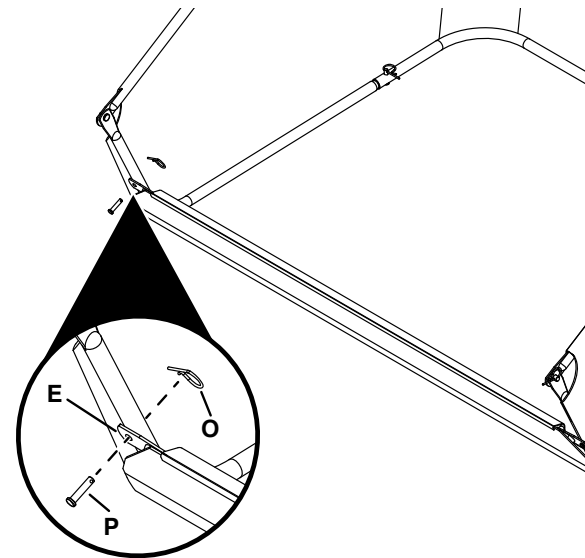

Figure 12
STEP 12: (SEE FIGURE 12)
- Secure each end of the bag frame plate (E) to the hopper tube assembly using 3/32" x 1.8" hair pins (O) and 1/4" x 1.11" clevis pins (P).